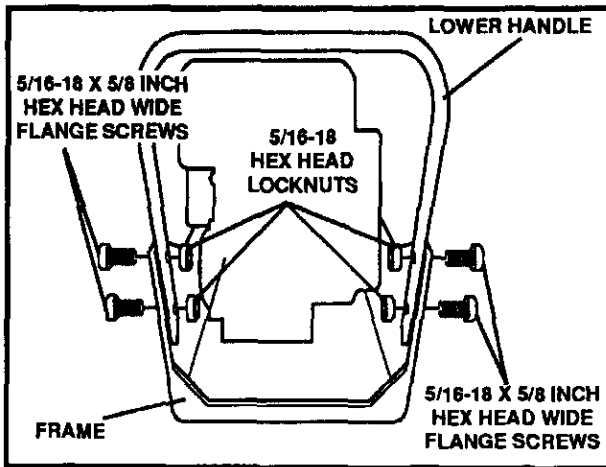

FIG. 2
- Place the lower handle inside the edger/trimmer frame (See Fig. 2) and secure in place with four (4) 5/16-18 x 5/8 inch hex head wide flange screws and four (4) 5/16-18 hex head locknuts (found in parts bag). **NOTE:** Locknuts should be on the inside of frame as shown in Fig. 2.